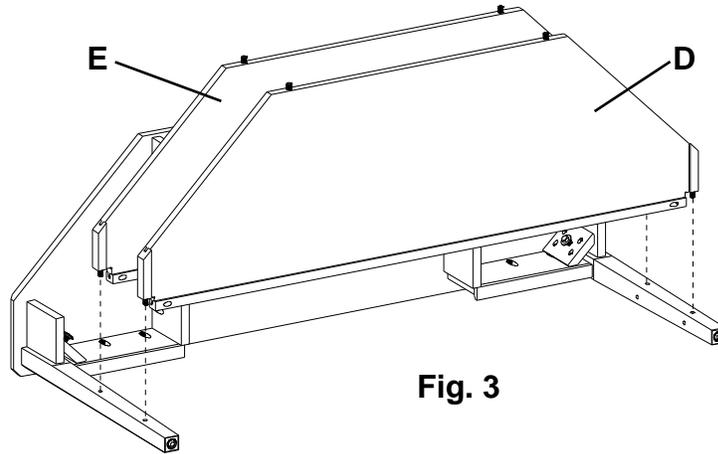

Fig. 3
3. Rotate the Top and Leg assembly so that it sets on the front legs. Turn the Lower Shelf Assembly (D) and the Upper Shelf Assembly (E) bottom-side-down and place the dowels into the dowel holes in the Front Legs. See Figure 3.